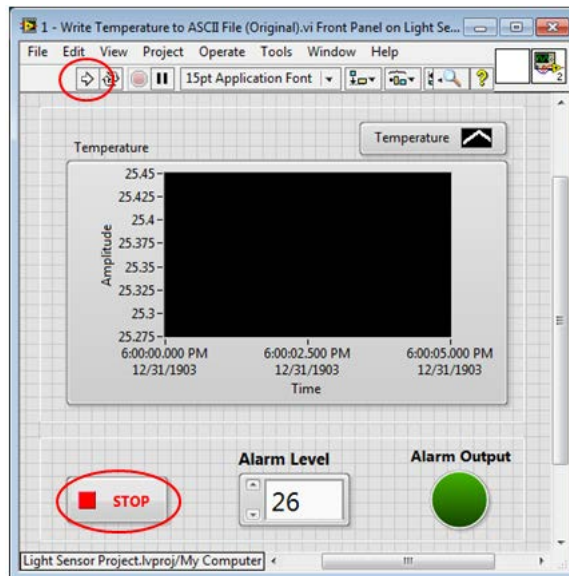

Figure 1. Use the Run arrow to run the LabVIEW application.
- b. Run the application by clicking the **Run** arrow () on the front panel as shown in Figure 1.
- e. Stop the VI by selecting the **Stop button** on the LabVIEW front panel as shown in Figure 1.